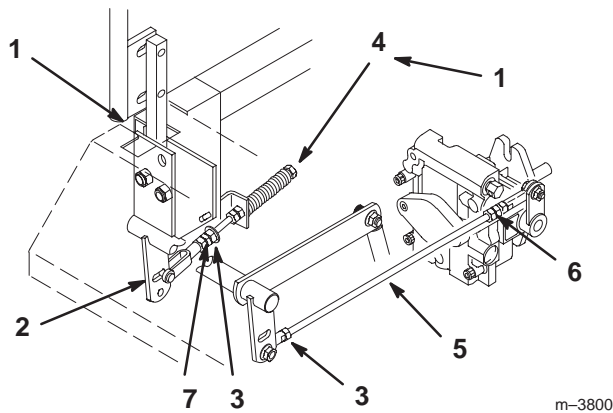

Figure 58
2. Begin with either the left or right motion control lever. Move lever to the neutral (but not locked) position and pull lever back until the clevis pin (on arm below pivot shaft) contacts the end of the slot (just beginning to put pressure on spring) (Fig. 58).
3. Check where lever is relative to notch in console (should be centered allowing lever to pivot outward to the neutral lock position) (Fig. 58).
4. Loosen locknut at ball joint on pump control rod (Fig. 58).
6. Adjust pump rod length by rotating double nuts on rod, in the appropriate direction, until wheel is still or slightly creeps in reverse (Fig. 58).